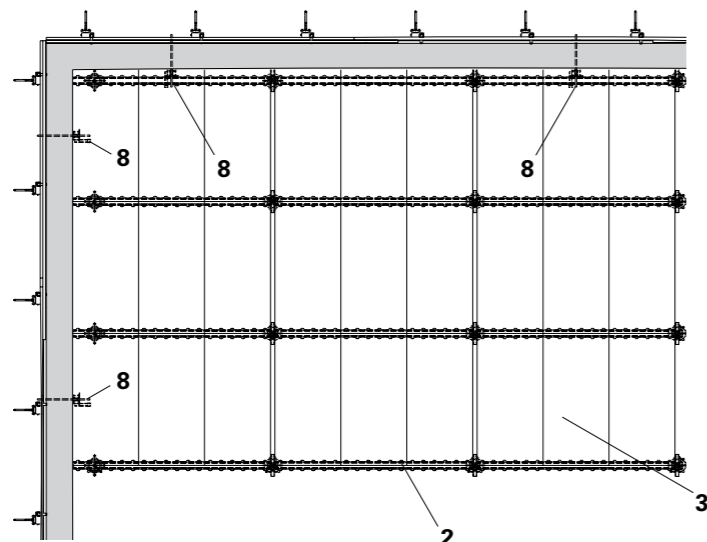

Fig. A4.14
- The longitudinal bay is now complete. (Fig. A4.14)